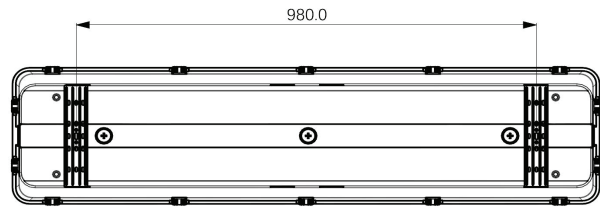

Fig. 1 4FT
1. Use appropriate mounting hardware (not supplied) to secure the Snap On Brackets to mounting surface. Refer to recommended Snap On Bracket in Fig 1 for 4FT. **WARNING:** Mount Snap On Brackets symmetrical about the center as shown in Fig. 1. Snap On Brackets must be aligned with each other to secure Housing.
5. Feed supply wires through one of the Conduit Plugs (5) to make electrical splices. Cord-grips (2) are provided and can be used based on application.